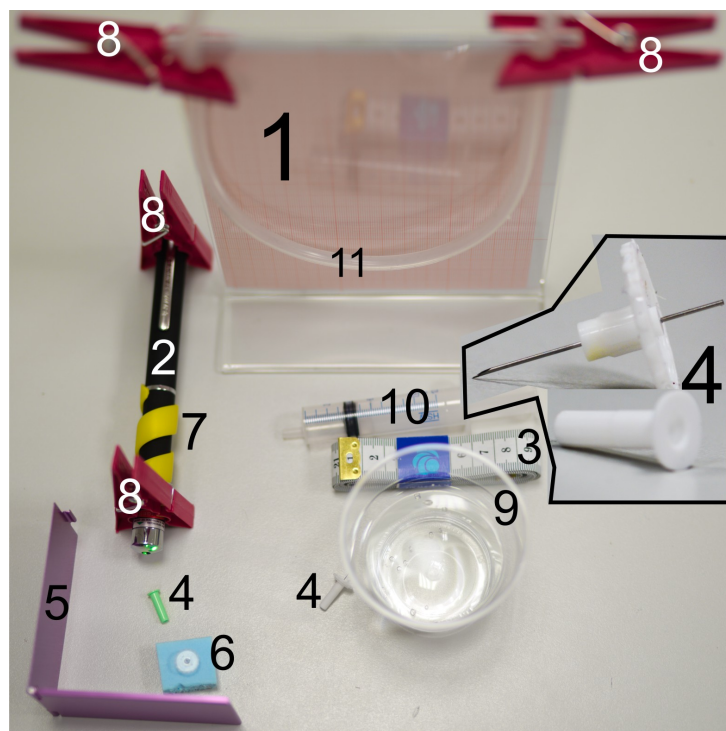

Figure 1
The following equipment is listed in figure 1:
- 4 — green and white syringe needles, one end of the needle is sharp, and the other end is cut perpendicularly to its axis, see the insert in fig 1